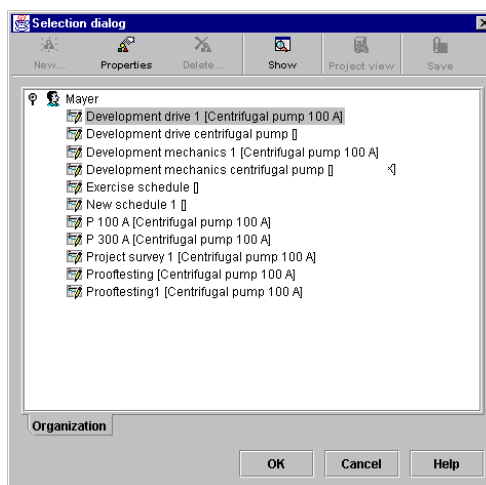

Figure 93: Selecting the schedule to be overwritten
3. The left column of the Import RPlan Schedules dialog box (Figure 93) displays all schedules of the selected Microsoft Project which you are authorized to import. Here you specify which schedule in the project tree is to be overwritten by the schedule to be imported. To do this, highlight one of the import schedules and click on *Selection*.